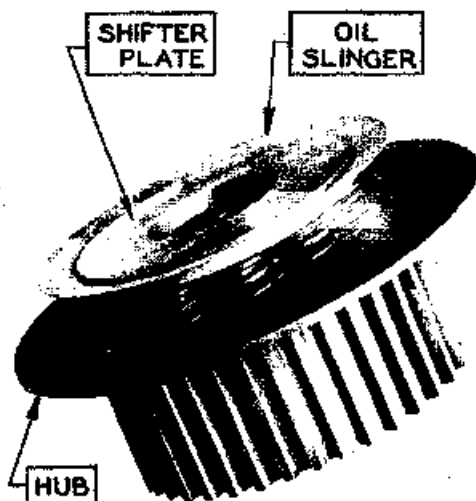

FIG. 17
4. Install oil slinger on shifter plate and set shifter plate down on springs with flat surface up. Figure 17.